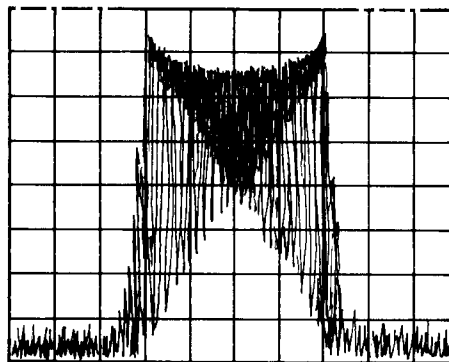

Figure 3-9. FM Functional Check Waveform
19. Set the spectrum analyzer for a 50 kHz frequency span/division, a resolution bandwidth of 3 kHz, and a reference level of 0 dBm. The waveform displayed should be similar to that shown in Figure 3-9.